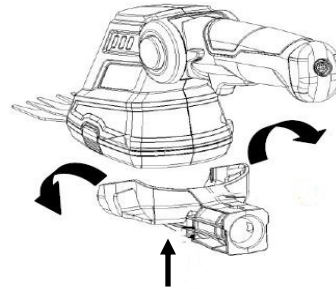

Fig. 4
## ASSEMBLING THE TELESCOPIC HANDLE (Grass Shear Only) (Fig. 4 - 7 )
- 1) To attach the telescopic handle, push the wheel cart onto the tool in the direction of the arrow until it clicks into position. ( Fig. 4)